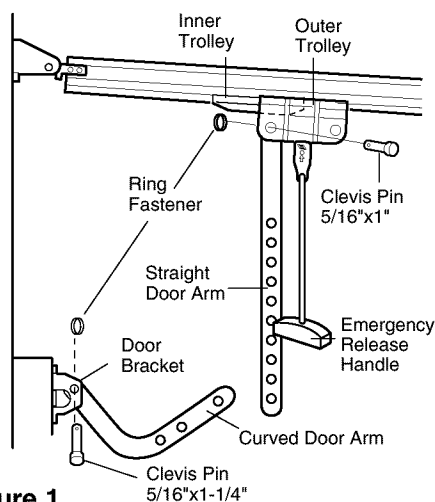

Figure 1
- Mark and drill 5/16" left and right fastening holes. Secure the bracket as shown in Figure 1 if there is vertical reinforcement.
- Make sure garage door is fully closed. Pull the emergency release handle to disconnect the outer trolley from the inner trolley. Slide the outer trolley back (away from the door) about 2" as shown in Figures 1, 2 and 3.
•Figure 1: